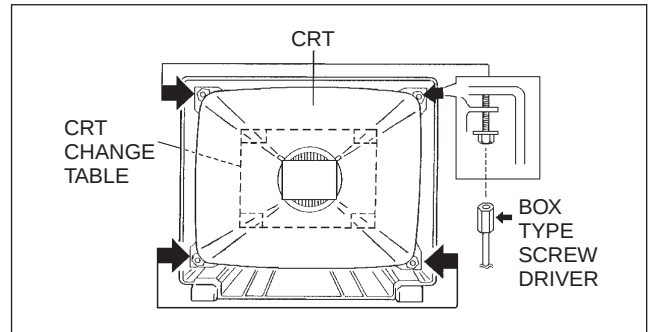

Fig.6
- (2) While keeping the surface of CRT down, mount the TV set on the CRT change table balanced well as shown in Fig. 6.
- (3) Remove 4 screws marked by arrows with a box type screwdriver as shown in Fig. 6.